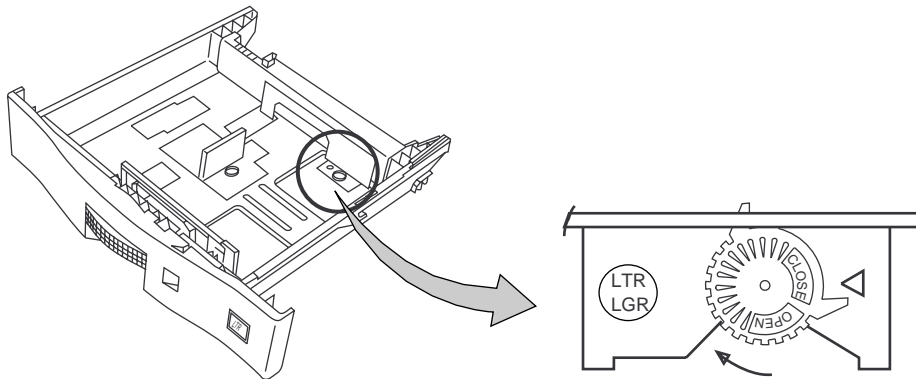

Figure 2-64 Securing the Paper Guide
- Turn the blue locking device, for the paper guide, clockwise to the CLOSE position to secure. See Figure 2-64.